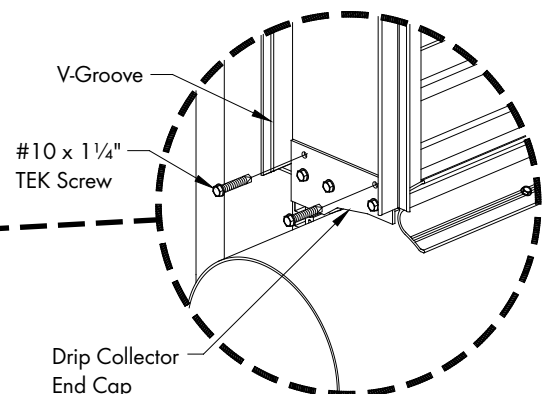

Figure 11E
Slide left End Panel into framing and into Drip Collector on left end. End Panel should fit snug, make sure ribs sit down tight into the Drip Collector. Fasten the Drip Collector End Cap to the End Panel using (2) #10 x 1/4" TEK Screws. See Figure 11E.